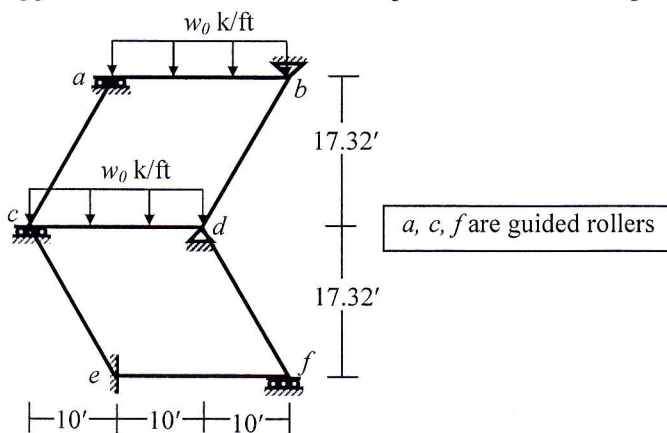

Fig. 4
4. Fig. 4 shows a frame $abcdef$ whose joint b rotates 1° (anticlockwise) due to the applied loads. Use the Stiffness Method considering flexural deformations only to calculate the distributed load (w_0) applied as well as the rotation at joint d of the frame [Given: $EI = 40 \times 10^3 \text{ k-ft}^2$].